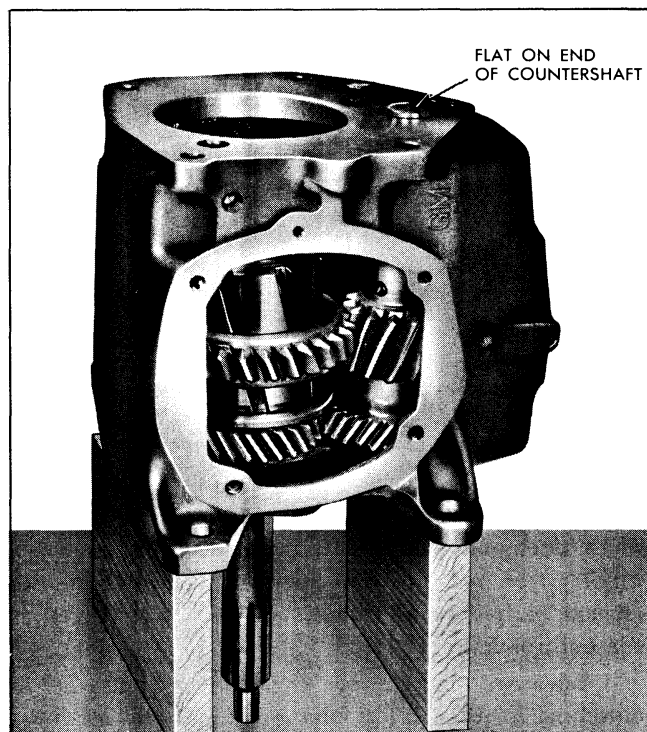

Fig. 7-35 Position of Transmission Case Assembly for Installation of Mainshaft Assembly
4. Position transmission case to receive mainshaft (Fig. 7-35).